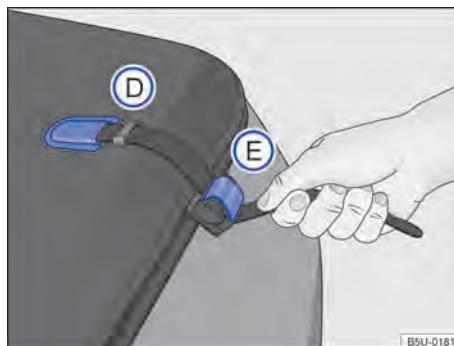

Fig. 49 Bed canvas attachment.
- Remove the belt end from the housing → **Fig. 49 D**, on the sides of the bed cover, and force the belt downwards to unlock the lock **E**.